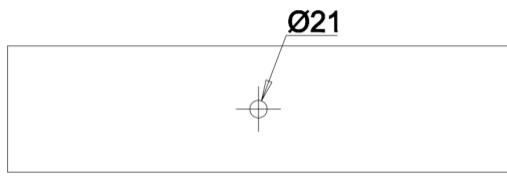
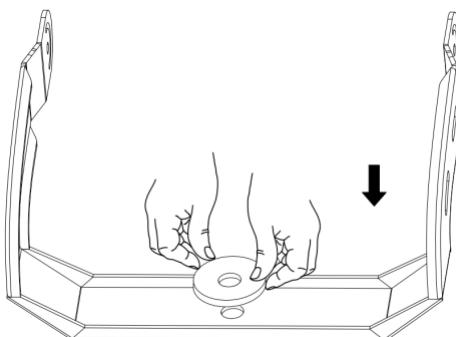

FIG.14
FIG.15
- 1) Drill one hole on the plane, the diameter 21 mm (See FIG.14). Put the round plate on the bracket (See FIG.15).